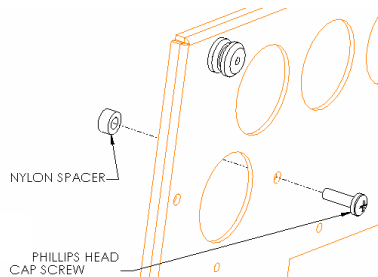
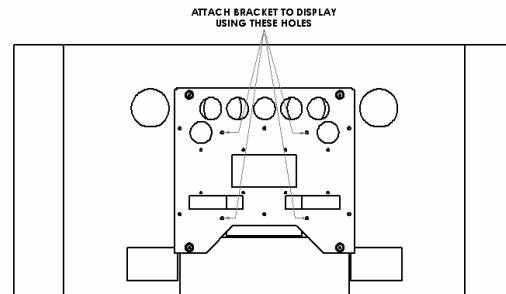

Figure 4
Figure 5
2. Place 1/4" Nylon spacers on mounting holes, aligning hole pattern on brackets with pattern on back of the display (see Figure 4 & Figure 5). If applicable, remove rubber caps over mounting holes before attempting to attach bracket. Note: 1/8" SPACERS MAY NEED TO BE USED WITH THE 1/4" SPACERS FOR EXTRA CLEARANCE.